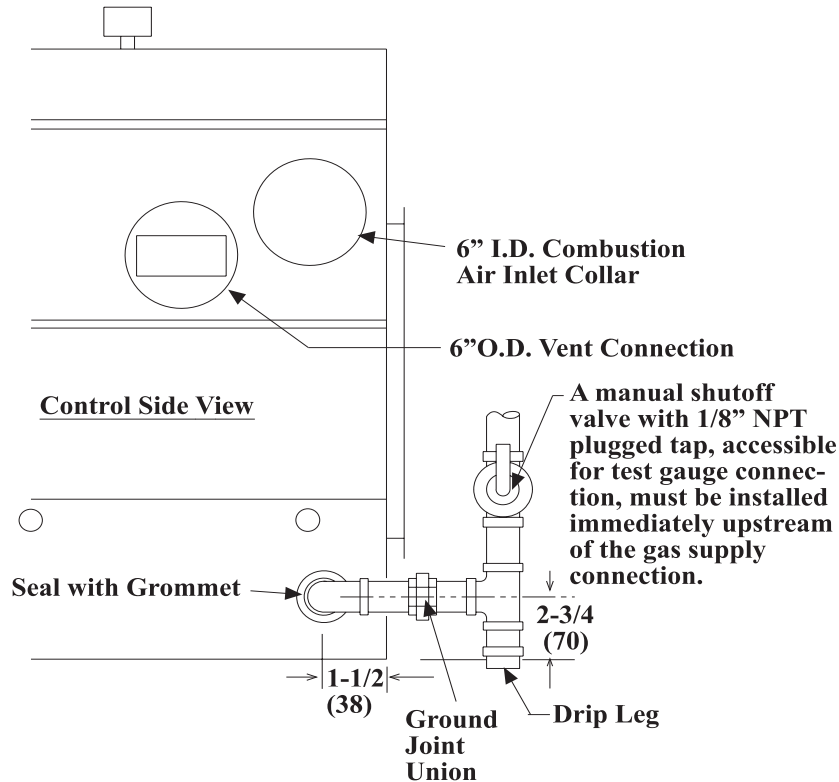

Figure 20. Gas Connections
Gas connections are shown in Figure 20.
- Seal the opening for the gas supply pipe with the grommet provided (see Figure 20).
- Install a ground joint union and manual shutoff valve upstream of the unit control system. The 1/8-inch plugged tapping in the shutoff valve provides connection for the supply line pressure test gauge. The National Fuel Gas Code requires the installation of a trap with a minimum 3-inch drip leg. Local codes may require a longer drip leg, typically 6-inch (see Figure 20).